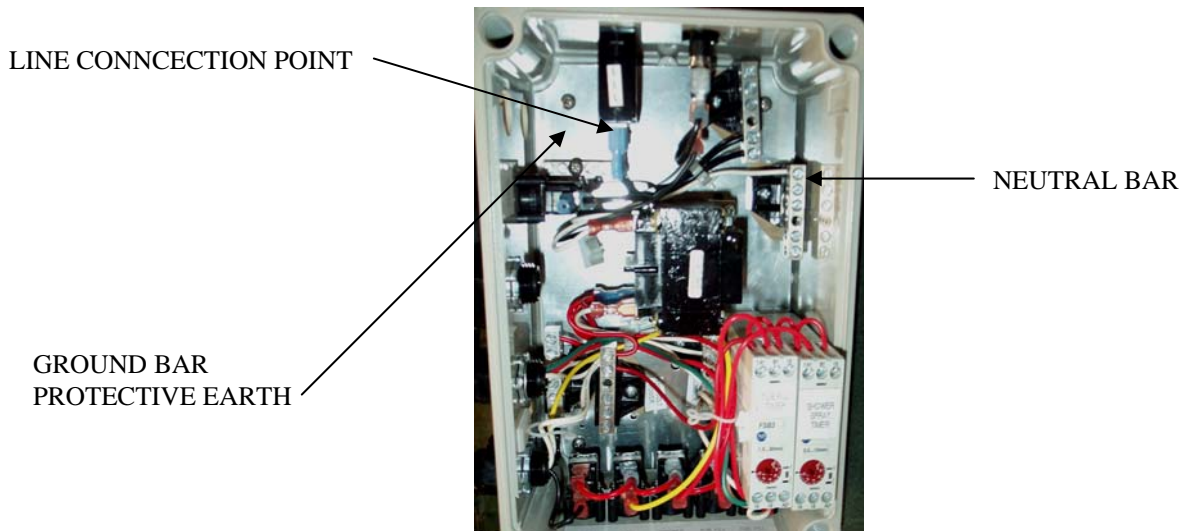

Fig 5
The Aqua-Air tub (rated at 13.3 amps at 120 Volts) a 15 amp GFCI breaker will work. See **Fig 5** for location of field wiring connection point.
9. Remove the tall door on the left side of the tub. Remove the cover of the electrical enclosure. Inside will be a female disconnect terminal connected to the circuit breaker at the locations labeled “L”. This is to be used for making the field connection to the circuit breaker. The neutral wire is to be connected to the neutral bar labeled “N”. The “protective earth” (ground) block is also labeled. **See figure 5.**
11. Run flexible conduit and the proper size wires, from the facility’s junction box to the connecting point of the tubs electrical enclosure. **See figure 5.**